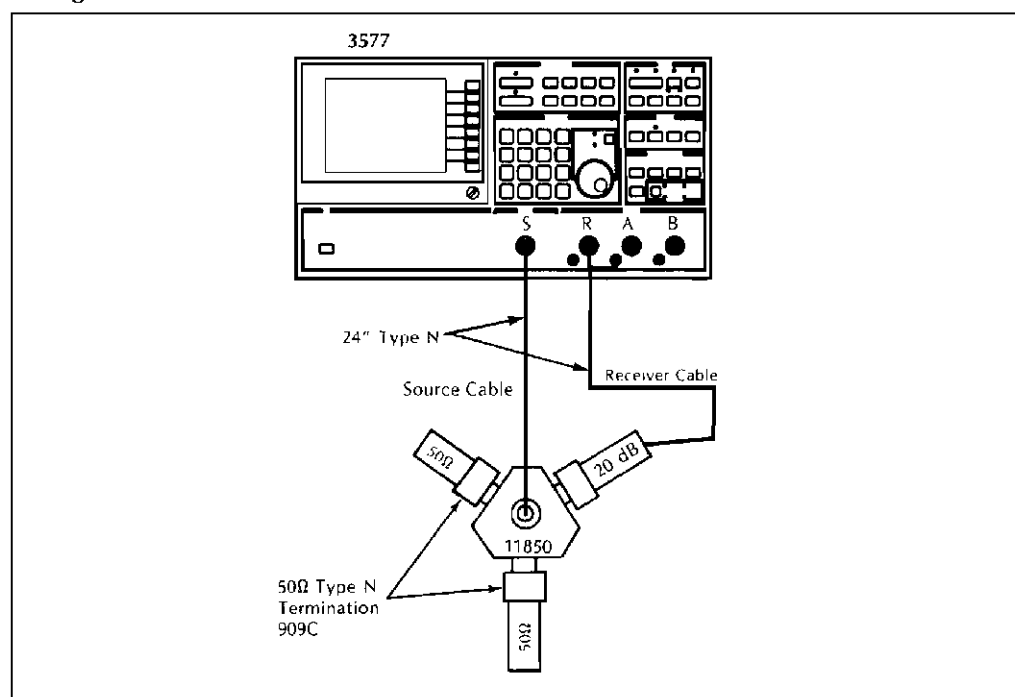

Figure 3-18 Source Flatness and Absolute Accuracy Test Set-Up
The test configuration used for calibration of channel R is very similar to that used for the receiver performance test. The EPM-1 power meter levels the 3577A source, maintaining an output of 0 dB at each of the power splitter ports. One output of the power splitter is attenuated by 20 dB and input to channel R. A single sweep is made and the error response of channel R is displayed after error correction for the transmission loss from the attenuator to channel R [Chan-R-error(freq)]. The results are stored in register D1. The final sweep is the source accuracy and flatness measurement, which is made without the EPM-1 (Figure 3-18) and is the product of the source and receiver error response [Source-error $\times$ Chan-R-error]. The ratio of the final sweep with the receiver calibration sweep is the source frequency error.
- s. Disconnect the EPM-1 (including the Error Correction Cable—remember to reinstall the factory installed jumper) and set up the equipment as shown in Figure 3-18.